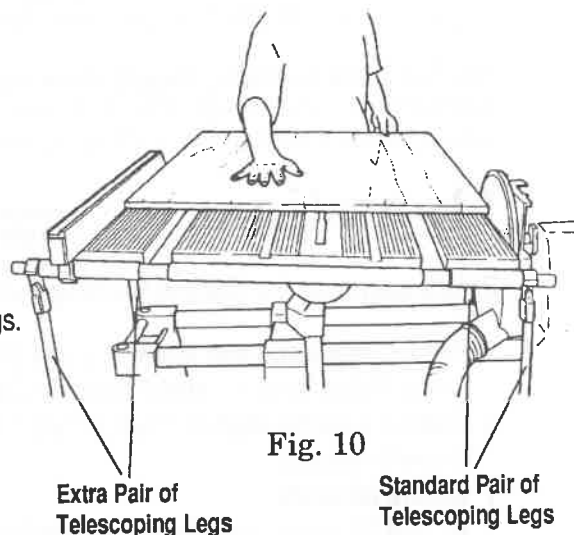

Fig. 10
14. For extra support, install telescoping legs on the sides of the worktable closest to the Conical Sanding Disc. Fig. 10 shows this (along with an optional, extra pair of legs).
For wide workpieces, shown in Fig. 10, move the aligned worktable away from the Conical Sanding Disc and attach extension tables where needed. Then move the worktable and extension table so that the extension table's top is at the top of the sandpaper's hole and 1/16" from the abrasive surface. Adjust your feed rate to match your workpiece and sandpaper grit. Always feed the workpiece steadily, and never feed it too fast.